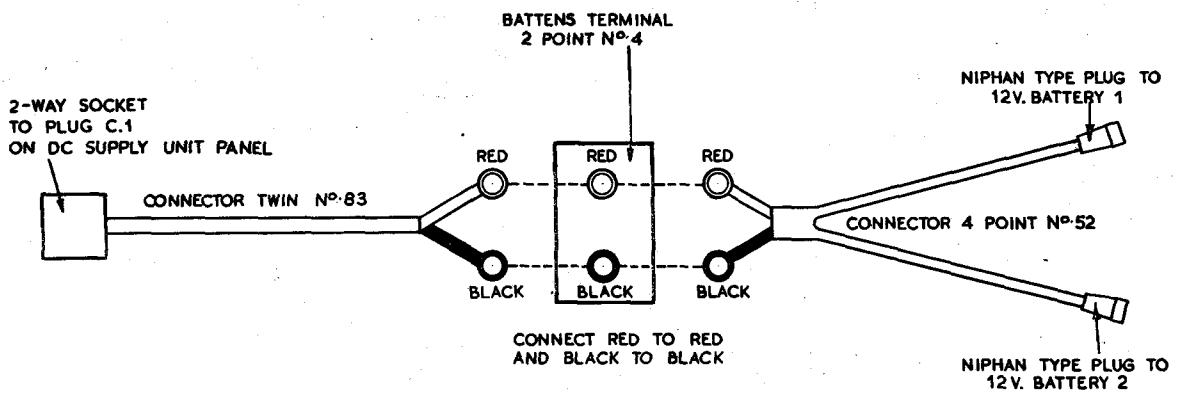

FIG. 7 - DC POWER SUPPLY CONNECTOR
When the DC supply unit is to be used, assemble a special connector from Connector twin No.83, Connector 4-point No.52 and Battens terminal 2-point No.4. This connector is illustrated in fig.7, and the component parts are provided with the DC supply unit.
- (1) Set the METER switch (C.11) to its OFF position.
- (2) Insert the plug end of Connector min. 12-point No.6, 39" from the reception set into the twelve-way socket (C.5) on the right-hand side of the supply unit panel.
- (3) Attach the DC power supply connector between the power input plug (C.1) on the top left-hand corner of the panel and the two 12 volt batteries from which the 24 volt DC supply is to be obtained, after making sure that the two connectors are joined red to red (positive) and black to black (negative) at the terminal batten. The assembly of this connector is illustrated in fig.7.
- (4) Set the METER switch (C.11) to its ON position, and observe that the indicator lamp glows.
- (5) Set the METER switch (C.11) to its 19V. position and adjust the pre-set control SET 19.V (C.9) so that there is a deflection of eight divisions on the meter. (C.3)
- (6) Set the METER switch (C.11) to its 1.4V. position and adjust the pre-set control SET 1.4V. (C.6) so that there is a deflection of eight divisions on the meter (C.3)
- (7) Set the METER switch (C.11) to 250V and 100V. In each case the meter needle should be deflected approximately eight divisions.
- (8) To switch off the equipment, turn the METER switch (C.11) to OFF.